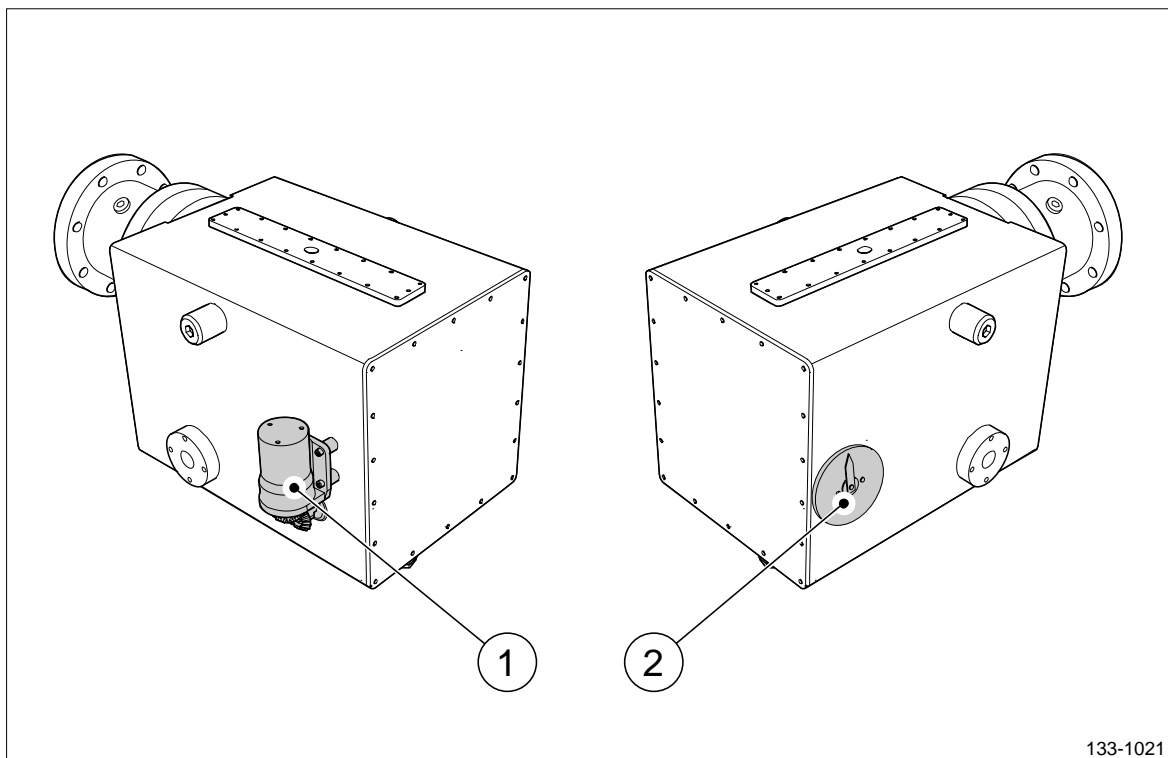

Figure 2 OD-box (FA), feed back box and its mechanical pitch indicator.
3. Visually inspect that the mechanical pitch indicator (pos 2, figure 2) on the OD-box is positioned at Full Ahead, according to the Combinator Diagram drawing.